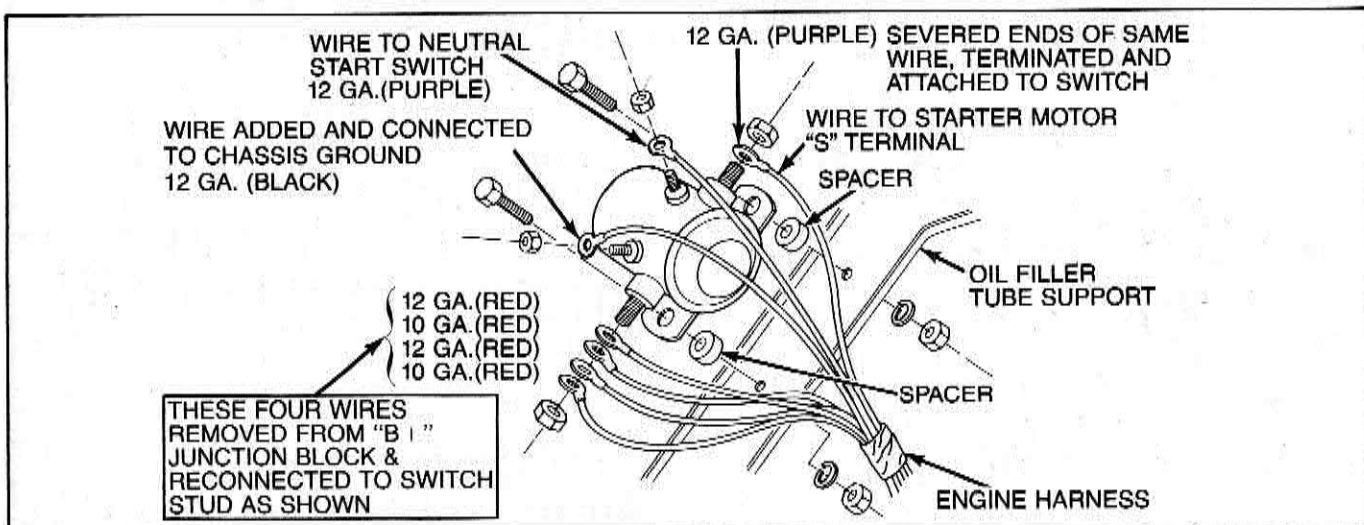

Figure A7-12-4 — Magnetic Switch Mounting and Connection
1. Drill two holes in the oil dipstick tube bracket. Use holes in the magnetic switch mount as a template for hole location. Removal of bracket will facilitate drilling. (See Figure A7-12-4.)